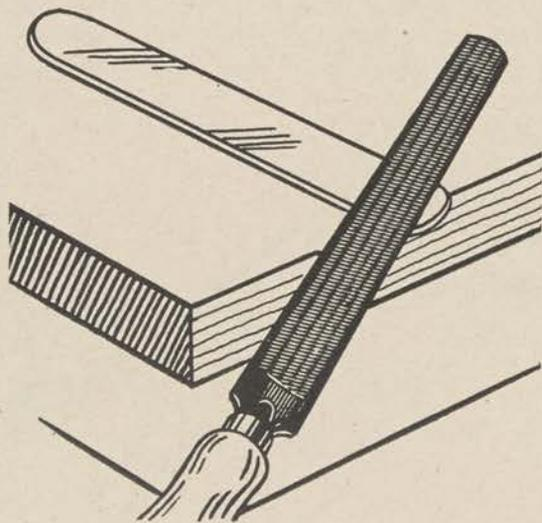

Figure 93.
(3) Now round the corners of the strip by clipping them off with the shears and filing them until they are smooth semicircles (fig. 93). The metal is then ready to be bent into its final form.